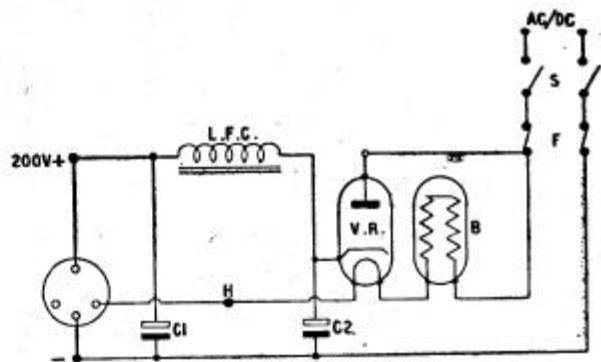

FIG. 2.—A.C./D.C. Power Pack.
As is well known, for A.C./D.C. operation the heaters of all valves used in the apparatus must be connected in series, and must have the same current rating, this rating also applying to the rectifier valve heater and to the barretter, or voltage dropping bulb, B, in Fig. 2.
When the circuit of Fig. 2 is used, therefore, care must be taken to ensure that the barretter B is rated at the range of voltages it is required to drop, but no adjustments are then necessary.
A.C./D.C. valves must be arranged so that the first audio stage in a receiver—i.e., the detector—or the most sensitive valve in an amplifier has one side of its heater connected straight to the negative line, in order that there shall be no heater—cathode leakage with consequent hum. Obviously, in Fig. 2, the valve heater chain is connected between H and the negative line.
Components List for A.C./D.C. Power Pack, Fig. 2.